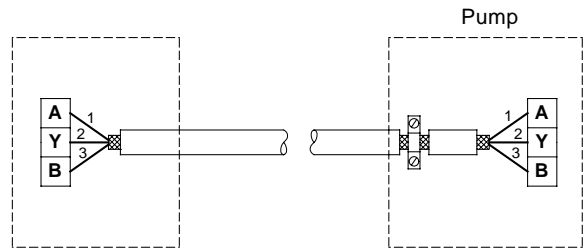

Fig. 6 Connection with screened 3-core cable
- If the unit has no cable clamp as shown in fig. 6, the screen is left unconnected at this end.